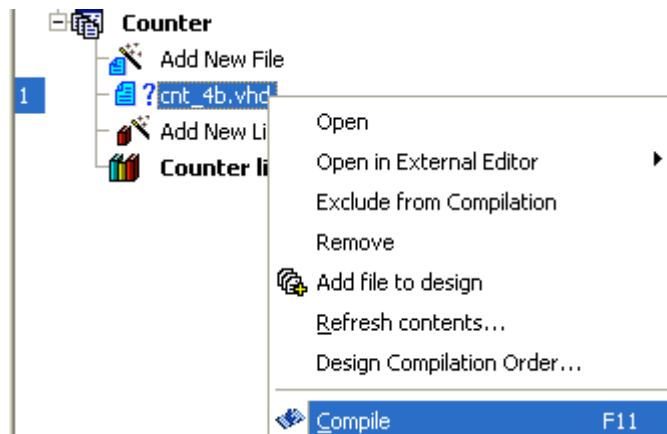

Figure 8: Compiling source.
5. Compile source file created at the end of wizard to check any possible DRC error as shown in Figure 8.